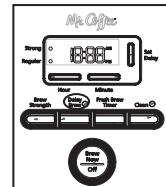

Figure 10
3. To activate DELAY BREW and program your coffeemaker to brew coffee at a later time, press the DELAY BREW button once (Figure 10). The green DELAY BREW light will turn on. The coffeemaker is now set to automatically brew coffee at the pre-set later time. At this time the brew strength light will turn on. You can select the strength that you desire by pressing the BREW STRENGTH button.
To cancel DELAY BREW: Press the DELAY BREW button (Figure 10).